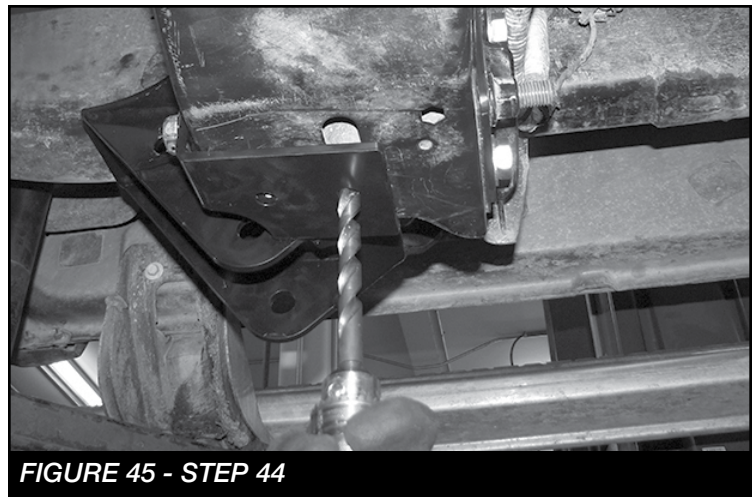

FIGURE 45 - STEP 44
44. Using a 17/32" drill bit. Drill 4 total holes, 2 on the driver side and 2 on the passenger side through the crossmember using the holes in the brackets as guides. **SEE FIGURE 45**